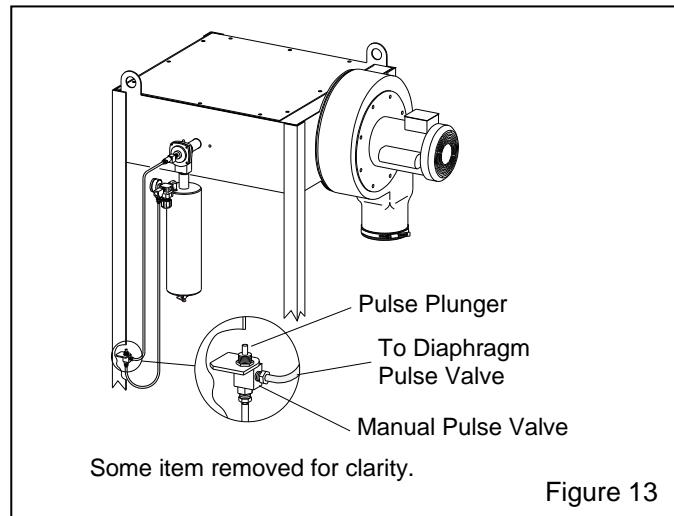

Figure 13
3.1.2 Turn pulse pressure to 20 psi (refer to Section 5.1 to adjust pressure), then refer to Figure 13 and press and release the manual pulse-valve plunger; (press and release foot pedal with foot-pedal pulse option) the collector should pulse every time the plunger is momentarily pressed. **NOTE: Do not hold the plunger in;** holding the plunger in for more than a moment will **not** increase cleaning efficiency. Prolonged pressure on the plunger could cause dust leaks and needlessly consume compressed air.
3.3.1 The filter cartridge pulses each time the manual pulse-valve plunger is pressed; refer to Figure 13. With the exhauster running, quickly press and release the plunger on the pulse valve. Several pulses may be needed to clean the cartridge; wait about 5 seconds between pulses. Rapid repetitive pulsing may cause dust leakage.